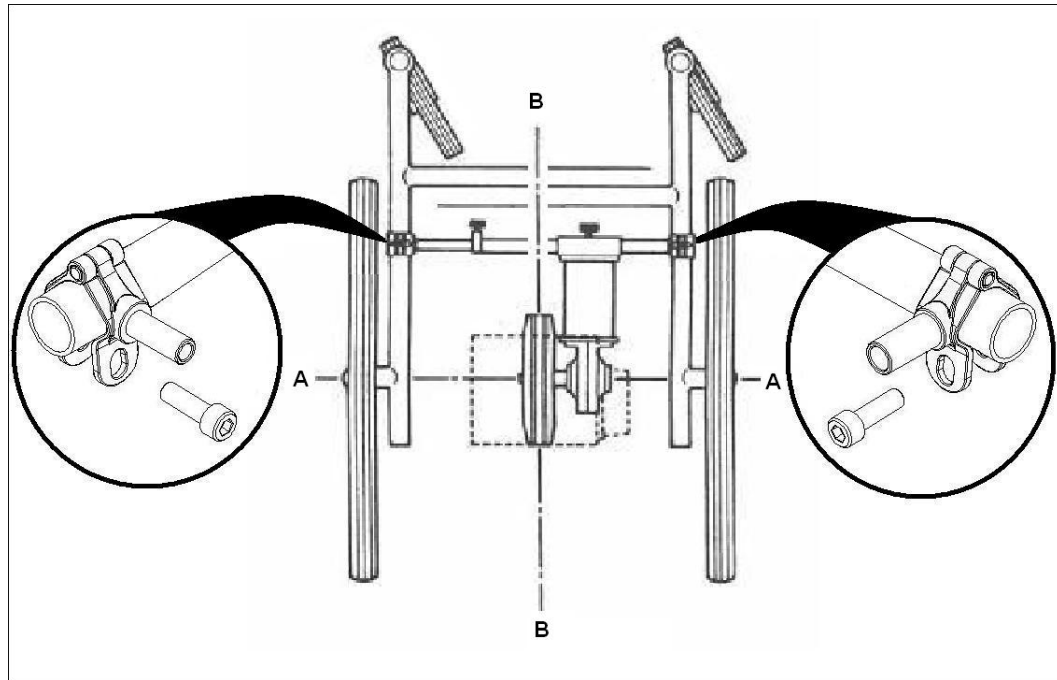
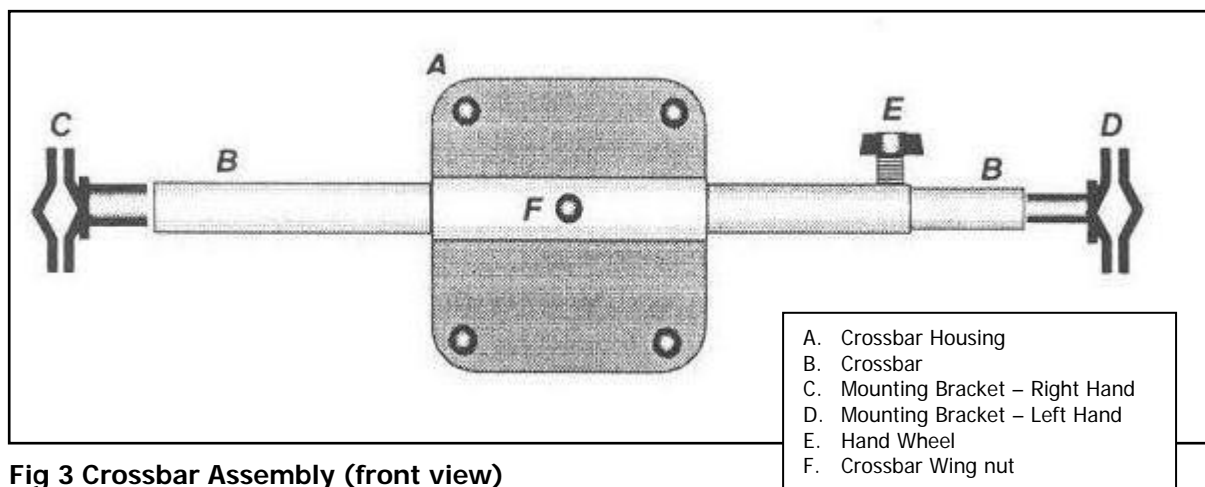

Fig 2 Powerpack Fitting and Bracket Location Diagram
Fig 3 Crossbar Assembly (front view)
- Take the two mounting brackets and you will see that one has a larger diameter shaft than the other (Fig 3 C & D). Fit the larger diameter right hand mounting bracket to the bottom of the wheelchair frame on the right hand side, as viewed from the rear of the chair. Fit the smaller diameter left hand bracket in a corresponding position on the left hand side of the chair. Fig 2 demonstrates the approximate positioning of the mounting brackets on the chair (when viewed from above). Do not tighten at this stage.